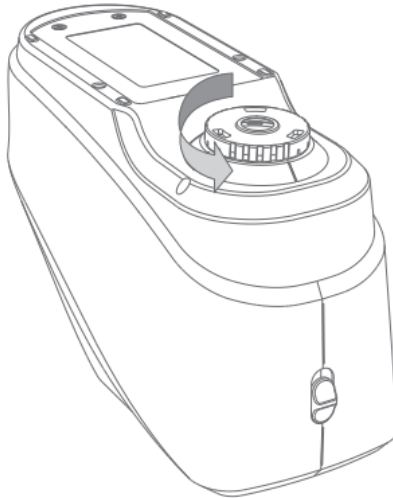

Figure 52 Measuring Aperture Assembling
Step 1, as shown in Figure 52, rotate the measuring aperture anticlockwise, remove the original aperture; Align the measuring aperture to be installed with the integrating sphere mounting hole and turn it clockwise. When there is a “click”, it means that the measuring aperture and the integrating sphere button position are well matched, that is, the measuring aperture is installed.